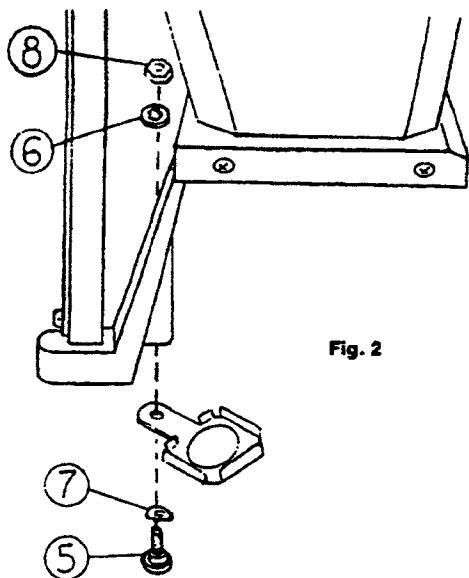

Fig. 2
- G. Turn the focus knob to extend the bellows and attach the accessory filter holder beneath the lens stage using the shoulder screw, curved washer, toothed washer and hex nut as illustrated in Figure 2.